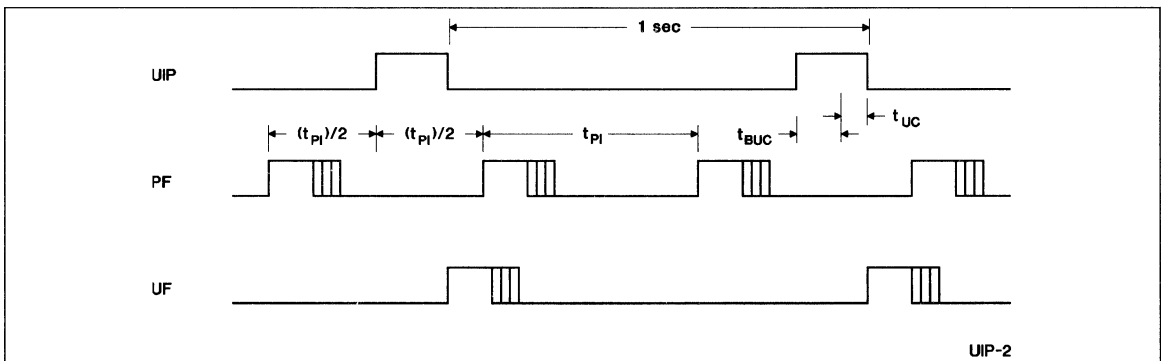

Figure 3. Update-Ended/Periodic Interrupt Relationship
- Enable the update interrupt event to generate interrupt requests at the end of the update cycle. The interrupt handler has a maximum of 999ms to access the clock bytes before the next update cycle begins (see Figure 3).
- Poll the update-in-progress bit (UIP) in register A. If UIP = 0, the polling routine has a minimum of t_{BUC} time to access the clock bytes (see Figure 3).
- Use the periodic interrupt event to generate interrupt requests every t_{PI} time, such that $UIP = 1$ always occurs between the periodic interrupts. The interrupt handler will finish accessing the clock bytes in $t_{PI}/2 + t_{BUC}$ time (see Figure 3).